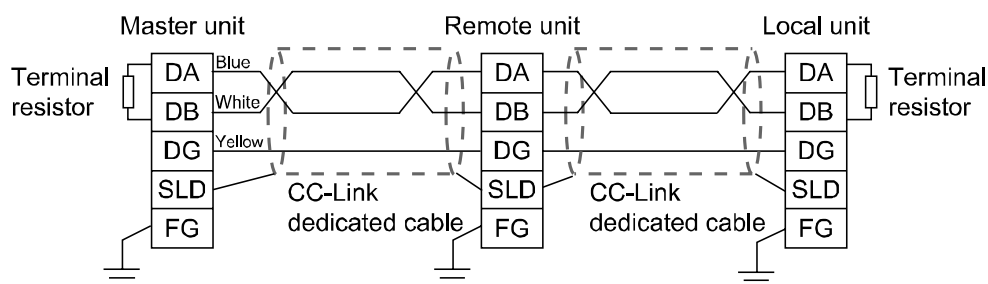

Fig.2
(2) Be sure to connect a terminating resistor between “DA” and “DB” at both ends of the CC-Link system (Refer to Fig.2).